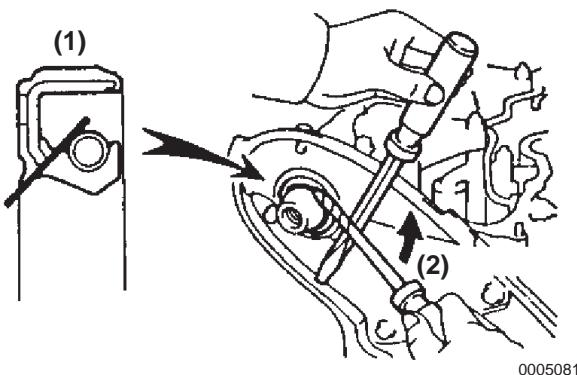

Figure 5-54
1. Cut off the oil seal lip using a knife (**Figure 5-54, (1)**).
2. Remove the oil seal using two screwdrivers as a lever (**Figure 5-54, (2)**). **NOTICE: AVOID damaging the camshaft. Use tape on the screwdrivers tip to prevent damage.**